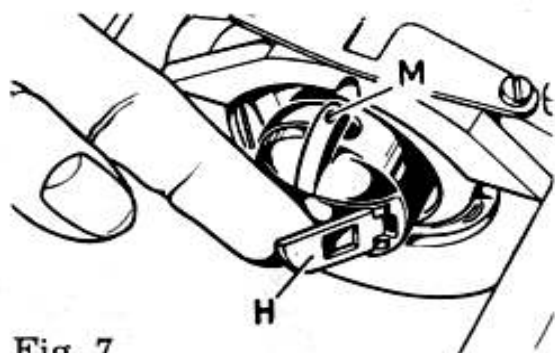

Fig. 7
- Remove bobbin case by lifting latch « H » and pulling it to the left (Fig. 7).
- Insert bobbin case by latch « H » (Fig. 7) and place it on center stud of shuttle. Finger « M » must go into notch of shuttle ring.